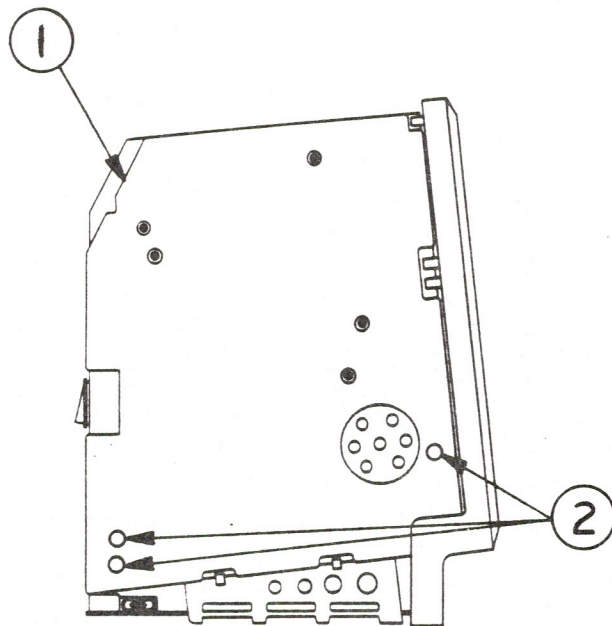

FIGURE 5
7. There are several versions of the insulating paper (Figure 5, #1). If there are no access holes for the three screws (Figure 5, #2), note how the paper is installed and then remove it.
8. Remove the three screws and washers (Figure 5, #2) holding the power/sweep board.